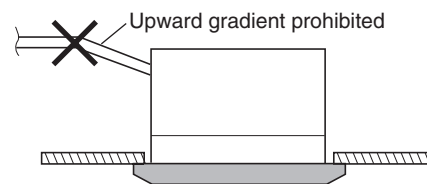

Fig. 1-55
- Do not install the pipe with an upward gradient from the connection port. This will cause drain water to flow backwards and leak when the unit is stopped. (Fig. 1-55)